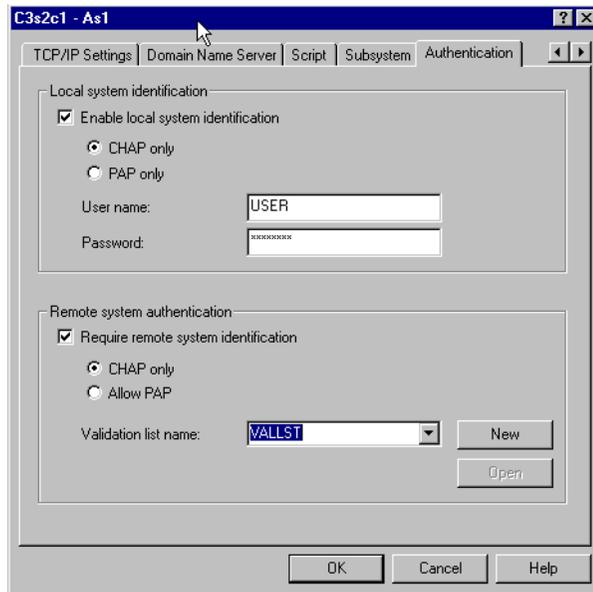
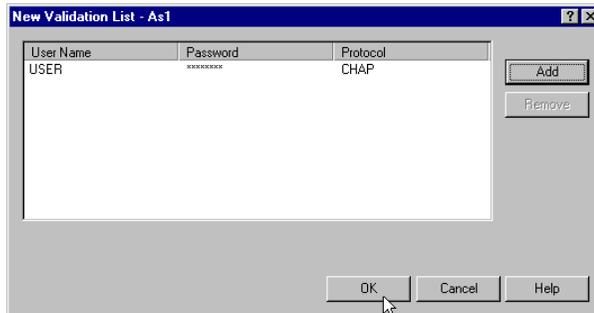

Figure 161. Authentication page of the PPP profile on the AS/400 system
Figure 165. Completing the entry of password for validation list
Use the Authentication page of the PPP profile to specify the authentication protocol choice. Figure 161 on page 198 through Figure 165 on page 199 show the steps to specify authentication on an AS/400 system.
2. If the remote system is to be authenticated, select **Require remote system identification**, and select **CHAP only** or **PAP only**. Then, enter a validation list name, and click **New** to create the validation list (Figure 161 on page 198).
Click **OK** after all users are registered (Figure 165).